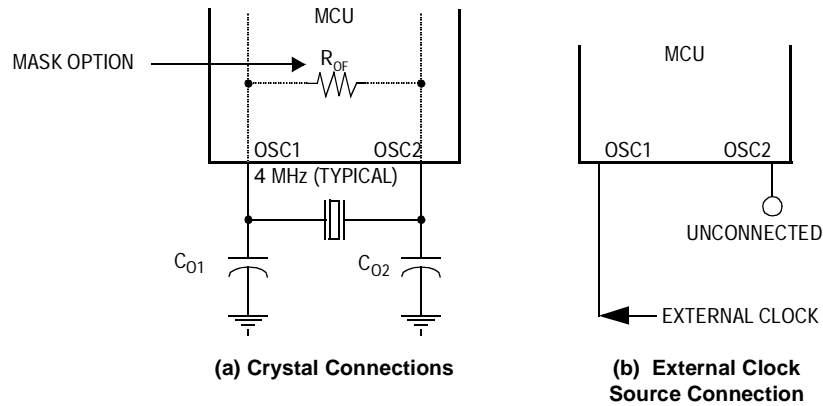

Figure 1-4. Oscillator Connections
1. A crystal or ceramic resonator as shown in Figure 1-4\(a\)
2. An external clock signal as shown in Figure 1-4\(b\)
The circuit in **Figure 1-4(a)** shows a typical 2-pin oscillator circuit for an AT-cut, parallel, resonant crystal. The crystal manufacturer's recommendations should be followed, since the crystal parameters determine the external component values required to provide maximum stability and reliable startup. The load capacitance values used in the oscillator circuit design should include all stray capacitances. The crystal and components should be mounted as close as possible to the pins for startup stabilization and to minimize output distortion. An internal startup feedback resistor of R_{OF} between OSC1 and OSC2 can be selected as a mask option.
An external clock from another CMOS-compatible device can be connected to the OSC1 input, with the OSC2 output not connected, as shown in **Figure 1-4(b)**. This configuration is possible regardless of the oscillator setup.